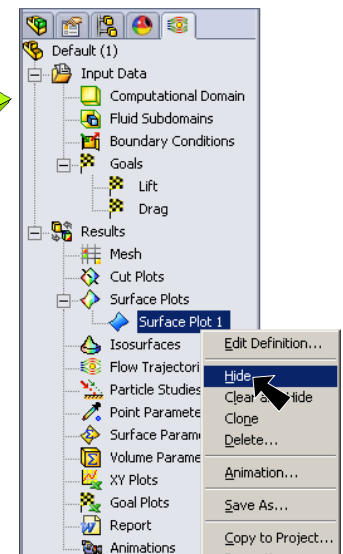

Fig. 23
Step 4. After viewing the surface plot, expand **Results** and Surface Plots in Flow Simulation tree, **right click Surface Plots 1** and click **Hide**, Fig. 23.